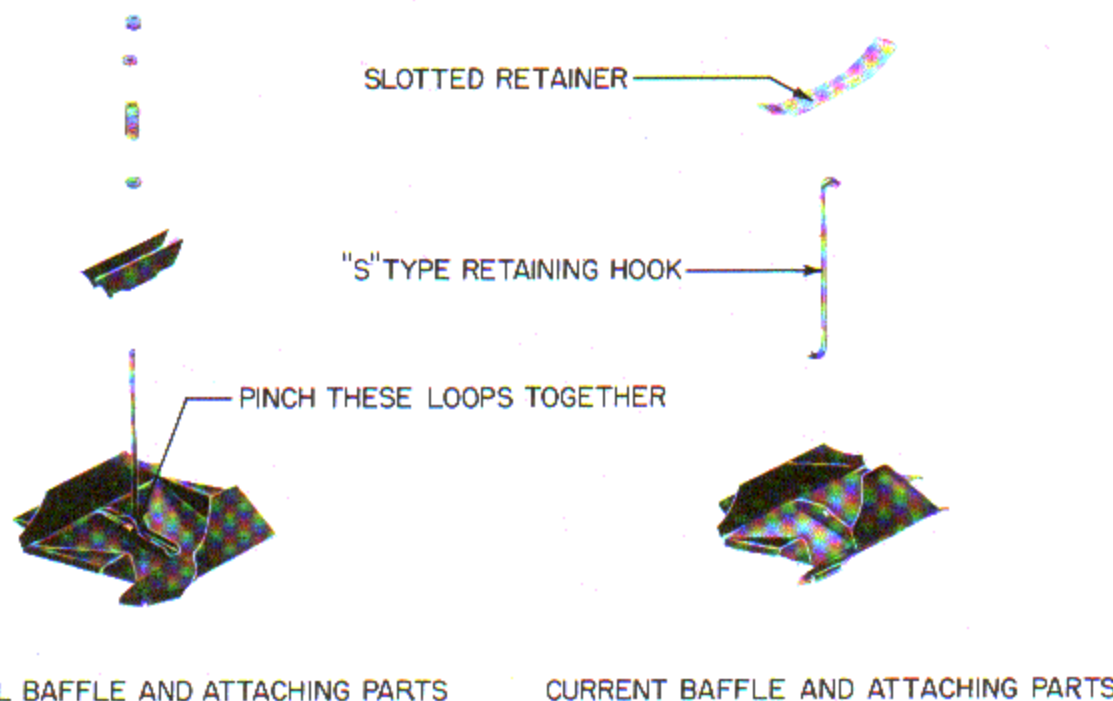

Figure 6-27. Intercylinder Baffle Assembly, Exploded View
**6-101. INTERCYLINDER BAFFLES.** All intercyylinder baffle assemblies must be attached with an "S" type retaining hook and slotted retainer. Modify baffle assemblies, if this has not already been done, by pinching loops together as shown in figure 6-27. Hook the baffle retaining hook through the loops in the baffle. Place the baffle in position beneath and between the cylinder, running the hook up between the cylinder barrels. Place a baffle retainer in position between the cylinders and use the L-shaped baffle assembly tool (10, figure 11-3) to bring the end of the retainer hook through the slot in the retainer. During this operation the retainer is forced down until the hook comes above the surface of the retainer far enough to be turned and hooked over the bridge between the slots in the retainer.